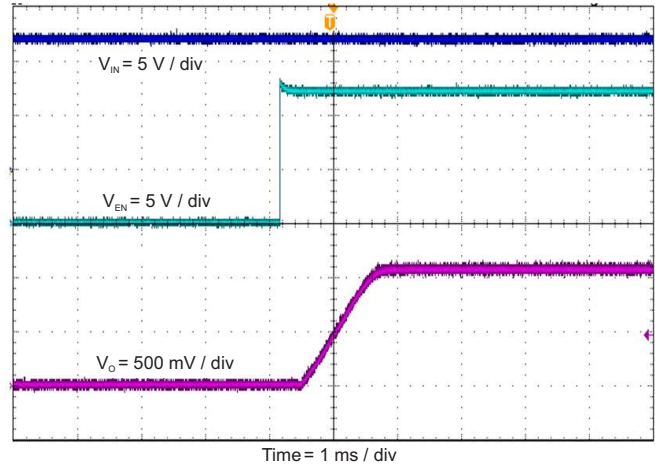

Figure 11. Start-Up Relative to EN
The TPS562201EVM-715 start-up waveform relative to enable (EN) is shown in Figure 11. Load = 1 Ω resistive.